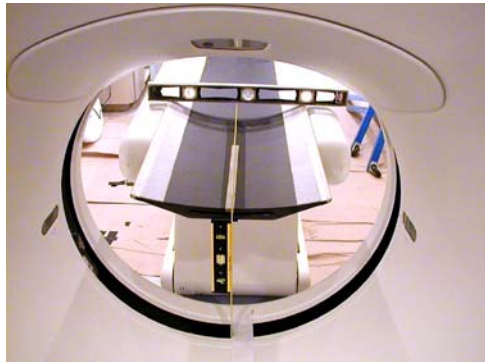

Figure 1-27 Place level across cradle
- 4.) Use a 2ft level to check cradle level from side to side. Level the cradle using the table front level adjusters #8 & #9. (See Figure 1-27.)